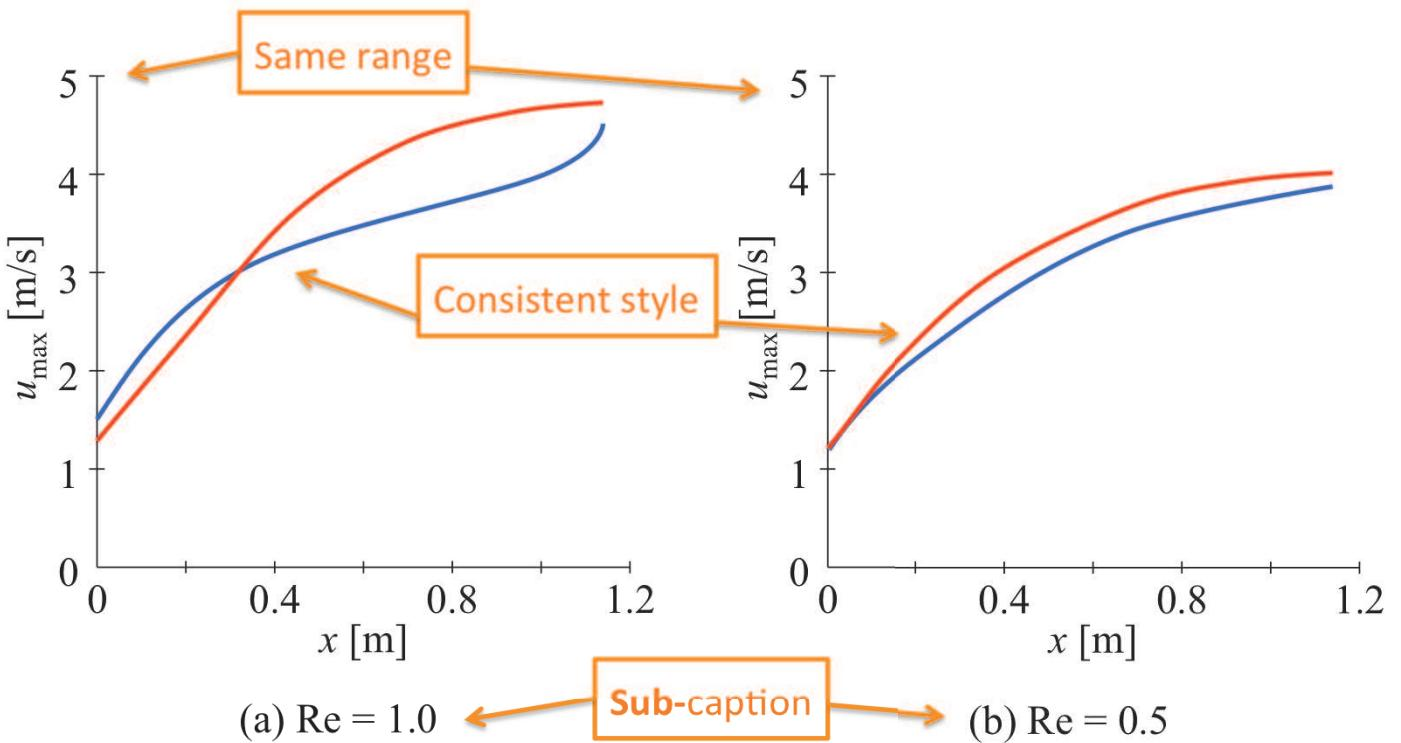

Figure 4.2: Maximum velocity along the channel for the steady case at two different Reynolds numbers. Red: 3D simulation; blue: 2D simulation.
- In the text, **refer** specifically to subfigures: e.g. “[...] as illustrated in Fig. 4.2(a)”.